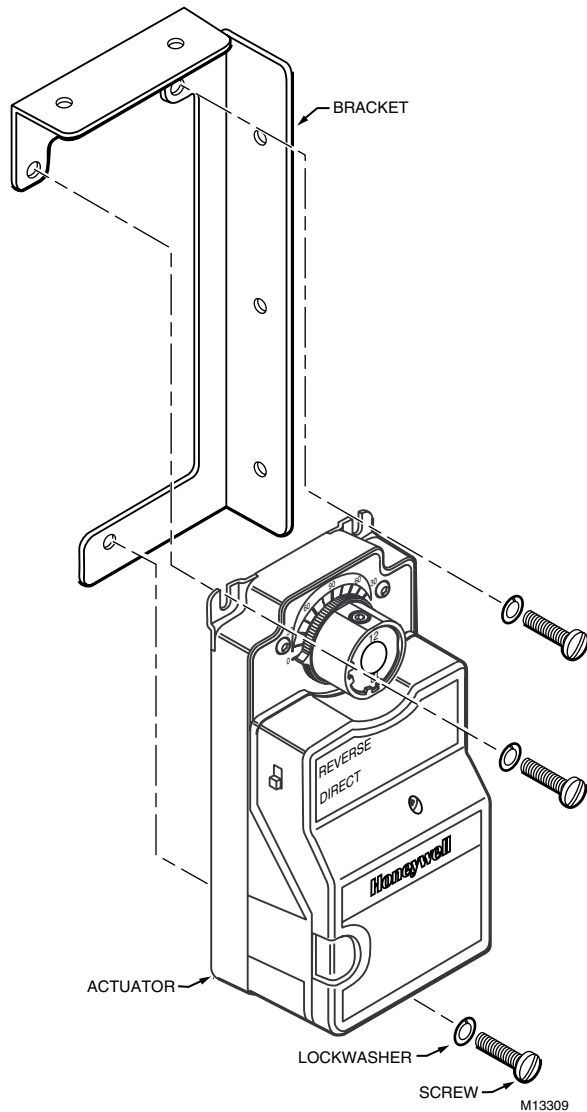

Fig. 3. Mounting a high torque DCA on bracket.
2. Attach the DCA to the bracket with three 1/4 in. screws and lockwashers. See Fig. 3.